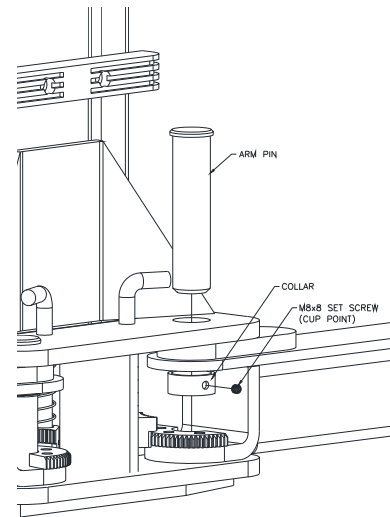

**Fig. 9 – Lock Cable Routing**
31) Secure Lock Release Cable at the top of each column extension as shown in **Fig. 9**. Lock Release Cable should be routed on the opposite side of the Overhead Beam as the Idler Hose to prevent interference.